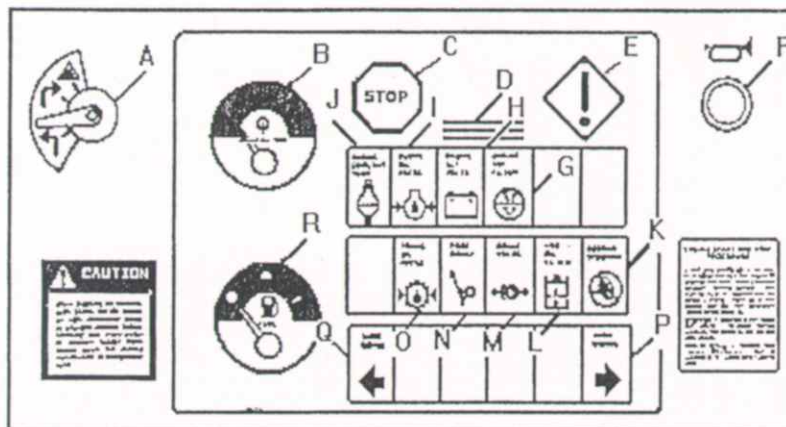

Figure 1-1
a. The instrument panel, figure 1-1, is located directly in front of the operator on the steering console.